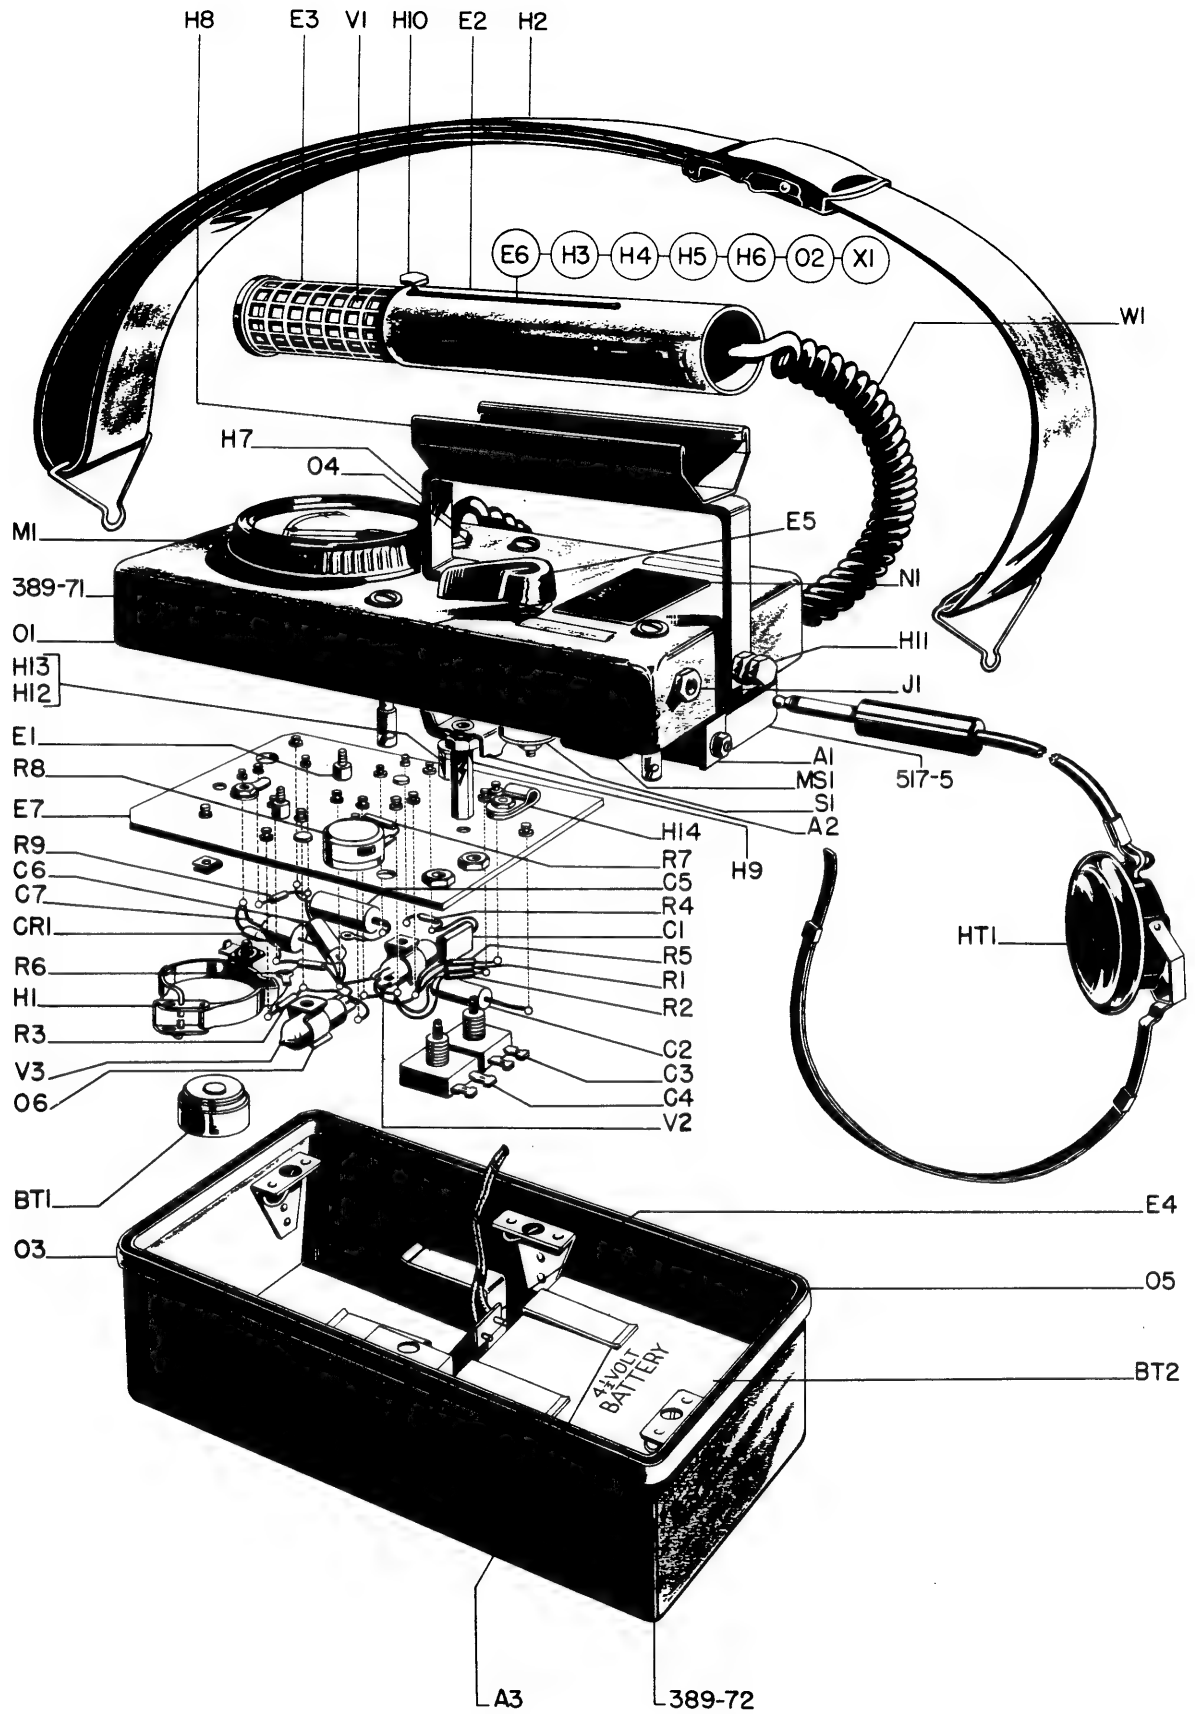

Figure 4-2 REFERENCED ILLUSTRATION
*NOTE: Unless otherwise specified, all symbol designations refer to the exploded view (Figure 4-2, Page 4-4.) for identification, and to the parts list, Section 5, for description of the proper replacement parts.*